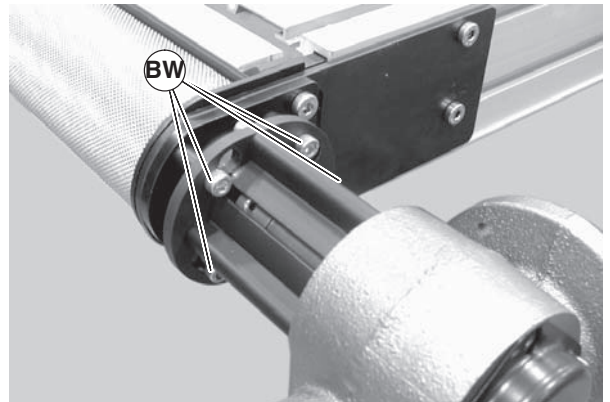

**Figure 54**
- e. Remove four (4) M5 mounting screws (Figure 54, item BT) and two (2) M8 mounting screws (BU).
- f. Remove gearmotor and mounting plate assembly (Figure 54, item BV).